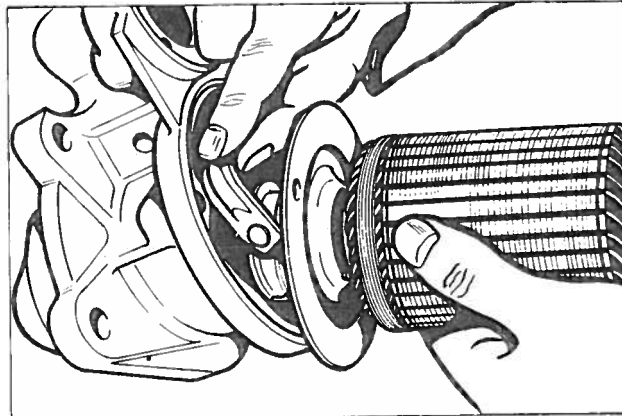

Fig. 92 Insertion of drive engagement lever
3. Slide the drive end plate over the pinion and insert the drive engagement lever Fig. 92, ensuring that the studs on the engagement lever enter the channel between the metal washer and the thick cup on the pinion assembly.